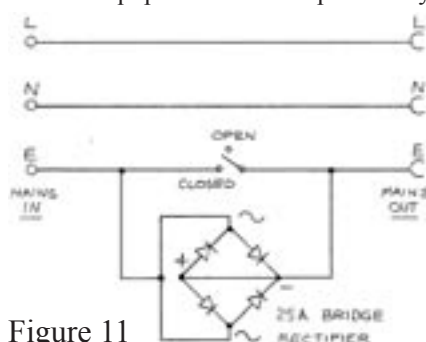

Figure 11
**Circuit Notebook No. 100. An unusual earth-lift box (Figs.11 & 12)**